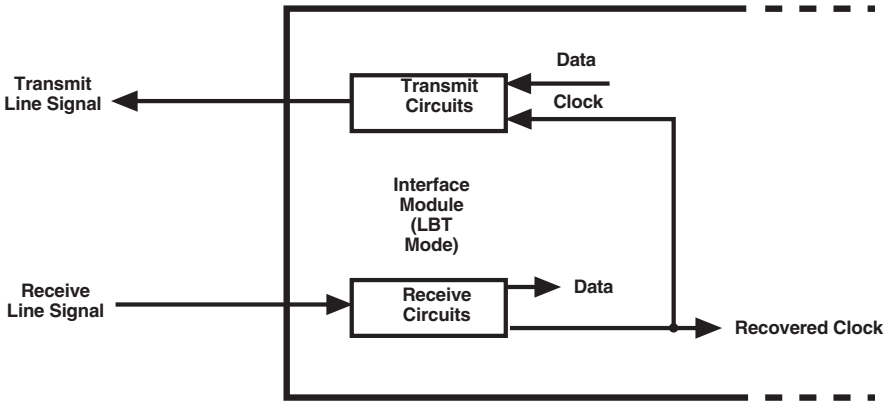

Figure 2-4. Flow of timing signals for LBT mode.
- LBT—the transmit clock is locked to the recovered receive clock (this mode is called “loopback timing”). **Figure 2-4** shows the flow of timing signals with loopback timing.
- LBT—the transmit clock is locked to the recovered receive clock. **Figure 2-4** in **Section 2.2.5** shows the flow of timing signals with loopback timing.